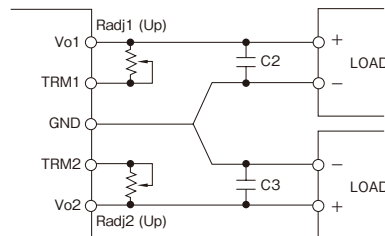

Fig.3-2: Connection for output voltage trim up
- a) V_{o1}/V_{o2} terminal: to adjust to higher output voltage; Fig. 3-2 or